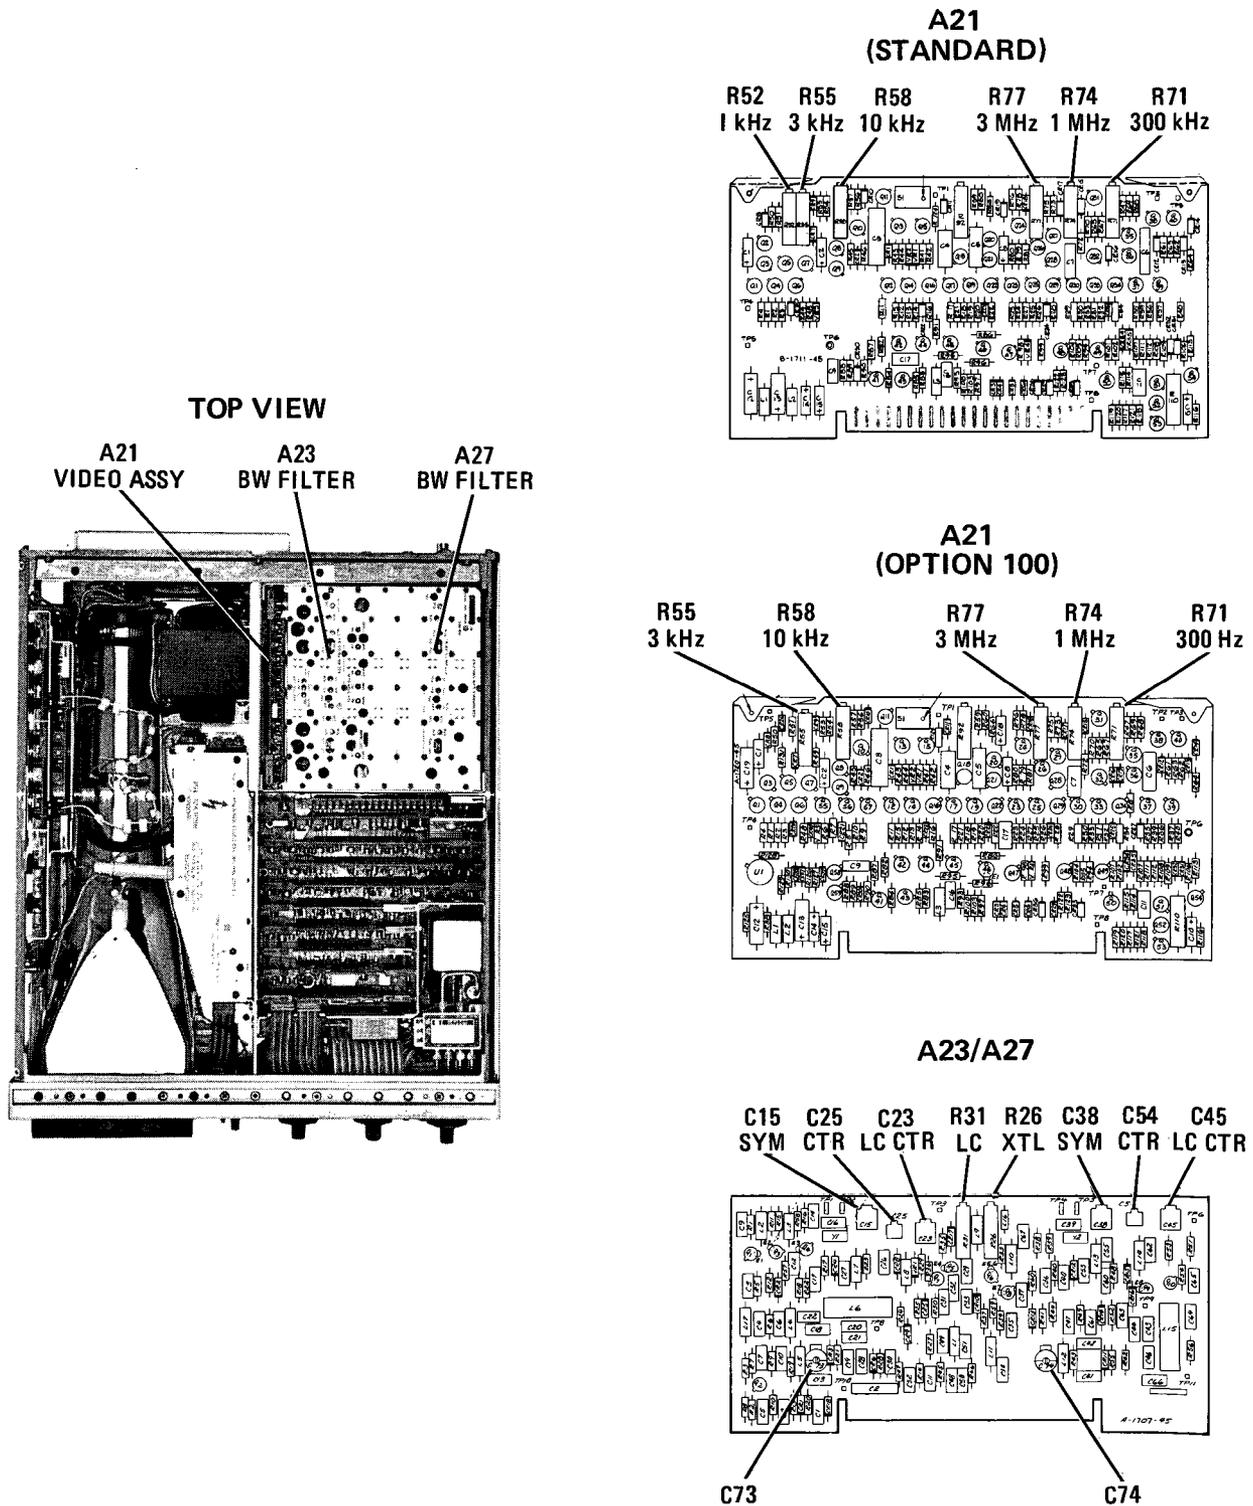
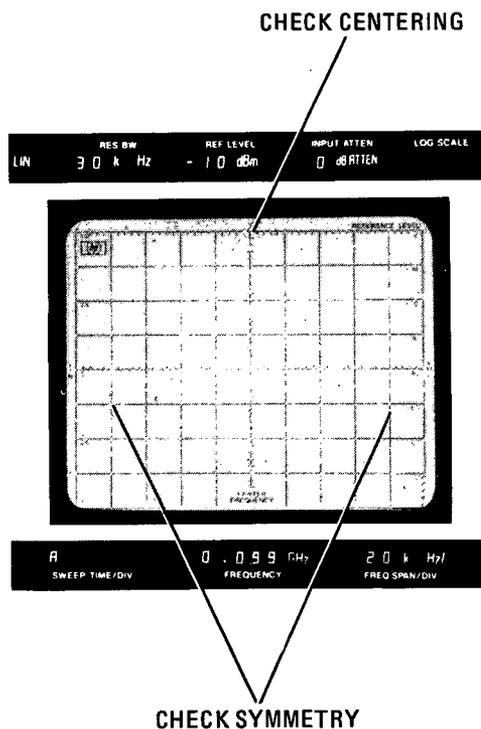

Figure 5-22. Bandwidth Filter Adjustment Locations
Figure 5-23. Crystal Filter Adjustment CRT Display
- e. Adjust front panel TUNING control to center bandpass spike (Figure 5-23) on CRT display.
- f. Adjust A23C54 CTR and A23C38 SYM (Figure 5-22) for a centered and symmetrical bandpass. Crystal center adjustment A23C54 is adjusted for minimum signal amplitude (Figure 5-23).
- h. Adjust A23C25 CTR and A23C15 SYM for a centered and symmetrical bandpass. Crystal center adjust A23C25 is adjusted for minimum signal amplitude (Figure 5-23).
- j. Adjust A27C54 CTR and A27C38 SYM for a centered and symmetrical bandpass. Crystal center adjustment A27C54 is adjusted for minimum signal amplitude (Figure 5-23.)
- l. Adjust A27C25 CTR and A27C15 SYM for a centered and symmetrical bandpass. Crystal center adjustment A27C25 is adjusted for minimum signal amplitude (Figure 5-23).